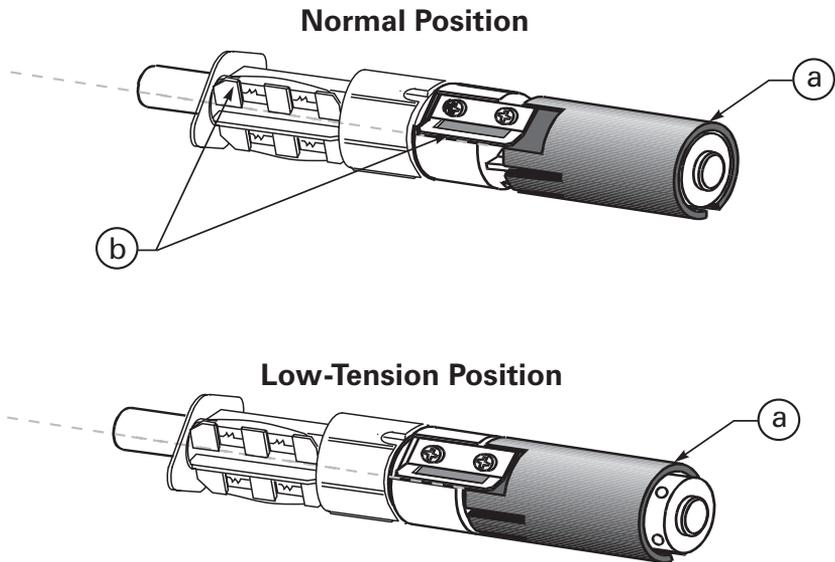

Figure 11
To place the spindle in the normal position, firmly pull the spindle end cap (a) until it clicks into place, as shown in Figure 11.
To put the spindle in the low-tension position, firmly push the spindle end cap (a) until it clicks into place, as shown in Figure 11.
2. Align the blades (b) on the two sections of the spindle as shown in Figure 11. (You do not need to do this if your ribbon width is 2.4" [60 mm] or less.)